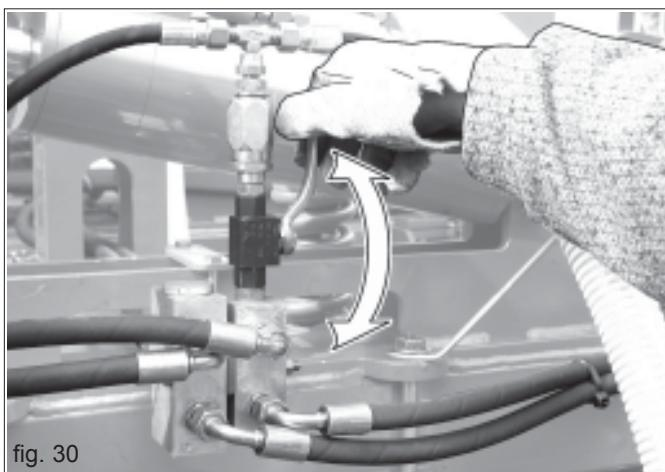
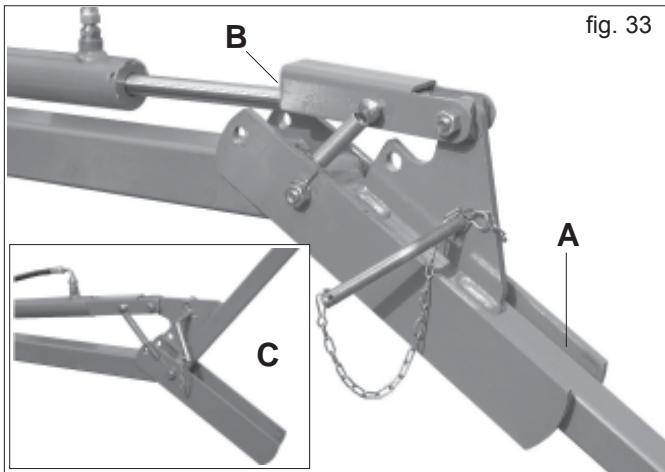

fig. 30
fig. 33
IMPORTANT! On the trailed versions, the system is shared with that of the rear trolley, so they are actuated at the same time by the same tractor distributor. A valve at the back of the machine allows the harrow circuit to be opened and closed according to requirements (Fig. 30).
- 3) Actuate the hydraulic system and bring the harrow arms to the end of their travel (A Fig. 33).
- 5) Make sure the clamp is positioned properly along the cylinder rod (B Fig. 33).
The last operation allows the seed-covering harrow to be partially raised (C Fig. 33) and then positioned correctly when the planter is lowered again, during the turning operations in the headlands or any other manoeuvre with the machine lifted off the ground. When using the rear seed-covering harrow in the working position, if its circuit is switched off with the valve (Fig. 30), the planter must be raised fully from the ground during manoeuvres.
With the harrow lowered and the circuit closed by the valve (Fig. 30), the planter must be raised fully from the ground during manoeuvres.